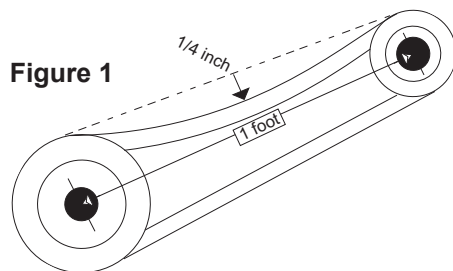

Figure 1
2. Adjust the motor plate until proper tension is reached. For proper tension, a deflection of approximately 1/4" per foot of center distance should be obtained by firmly pressing the belt. Refer to Figure 1.